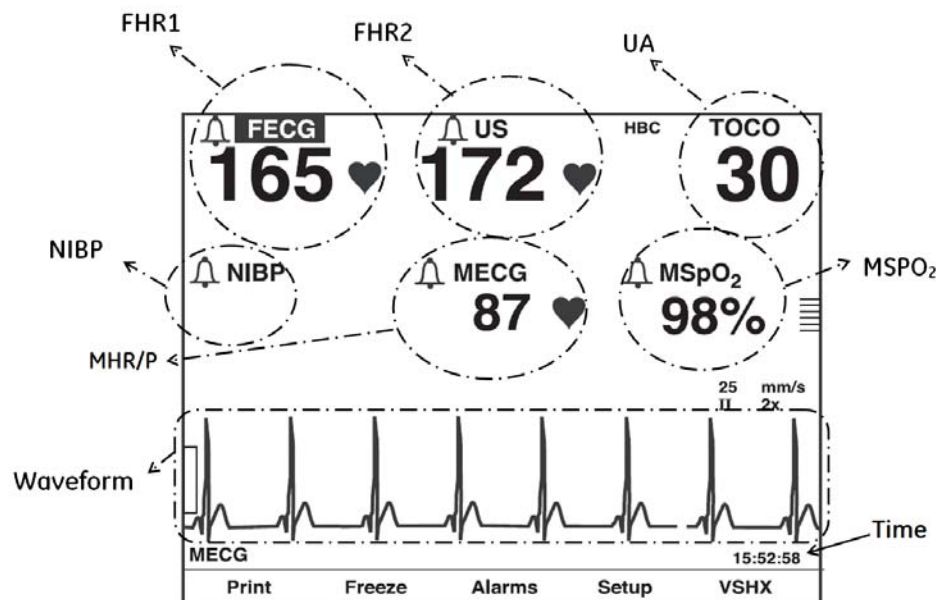

Figure 1-3 Display Information Example
Display Example: The graphic in Figure 1-3 gives the following information:
These parameters, shown on the upper portion of the screen (See Figure 1-3), include Fetal Heart Rate 1 (FHR1), Fetal Heart Rate 2 (FHR2), and Uterine Activity (UA). Each parameter can have several modes depending on the type of its input.
These parameters, shown on the middle portion of the screen (See Figure 1-3) are available in Maternal/Fetal monitor models only. The parameters include Maternal Blood Pressure, Maternal Heart/Pulse Rate, and Maternal SpO₂. Each parameter can have several modes depending on the type of its input.
The monitor display can show Fetal ECG Waveform, Maternal ECG Waveform, or Maternal SpO₂ Pulsatile Waveform on the bottom portion of the screen (See Figure 1-3). So the waveform can have several modes: FECG, MECG, MSpO₂, or Off.
The display also shows Current Time, [Label] *Frozen* Message and Time of Activation (See Figure 1-3).